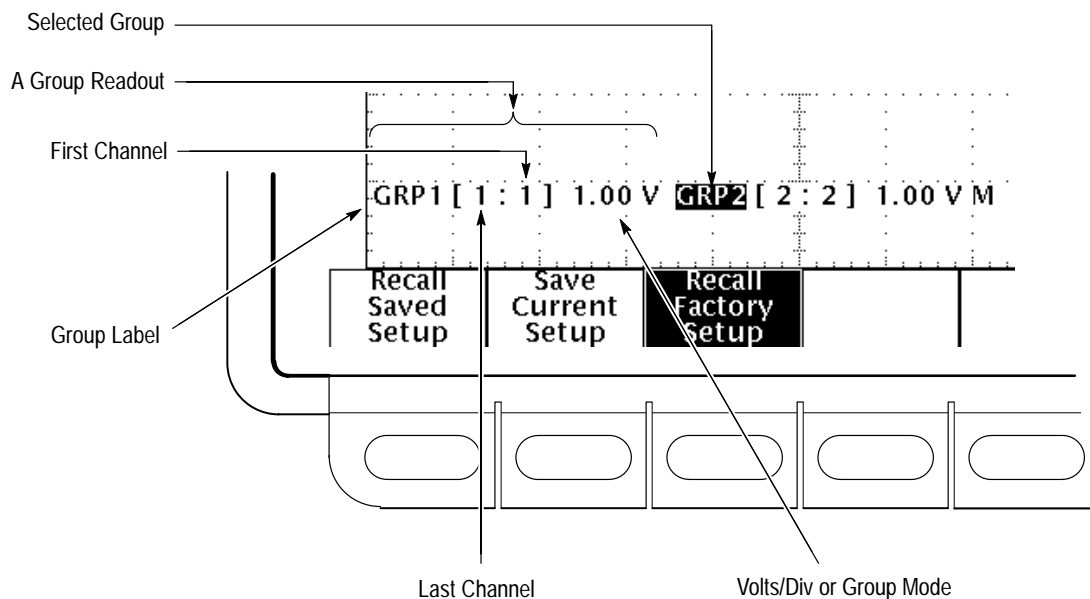

Figure 3-27: Vertical Readout Displaying Two Group Readouts
To determine the composition (first and last channel) of any group displayed, check the *Vertical Readout* at the bottom of the display. (See Figure 3-27.)
- displays the label of the selected group in reverse video. (See Figure 3-27.)